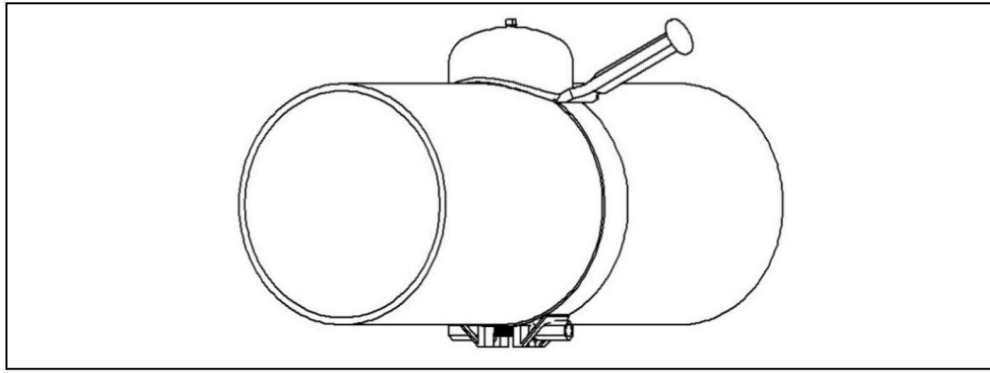

Figure 5
8. Notch and break the draw band near the weld using a chisel or cut off with a grinder as shown in Figure 5. Discard the drawband.